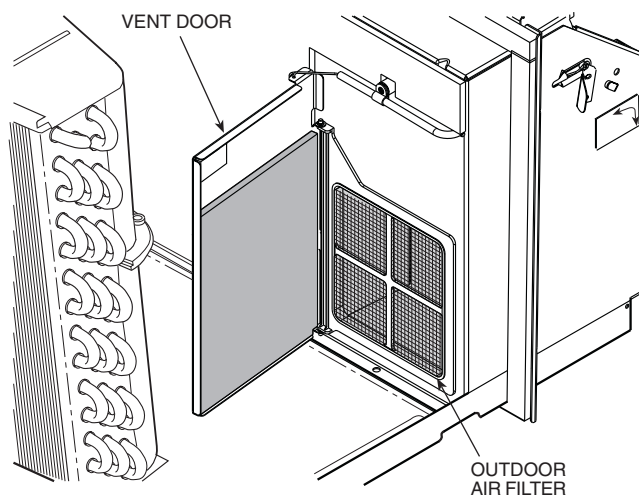

FIGURE 22 — LOCATION OF OUTDOOR AIR VENT FILTER
2. Swing open vent door. The filter is located directly behind the vent door. See Figure 22.